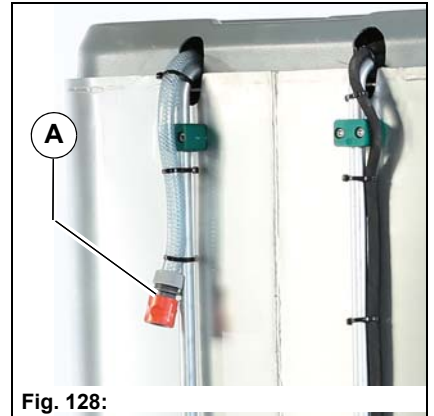

Fig. 128:
2. Connect a water hose to the water connection **Fig. 128-A** of the dirt hopper.